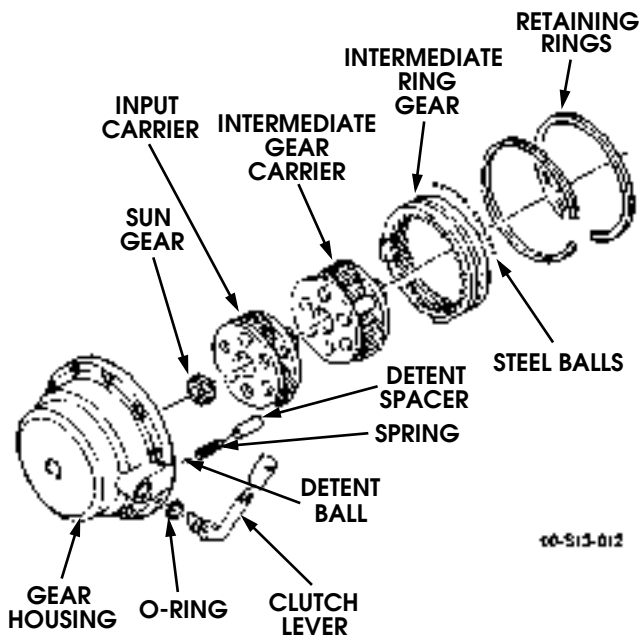

Figure 9-193: Gear Housing
16. Remove detent spacer, spring, and detent ball from gear housing (Figure 9-193).
18. Remove two retaining rings from gear housing (Figure 9-193).
20. Remove input and intermediate gear carrier assembly from gear housing (Figure 9-193).